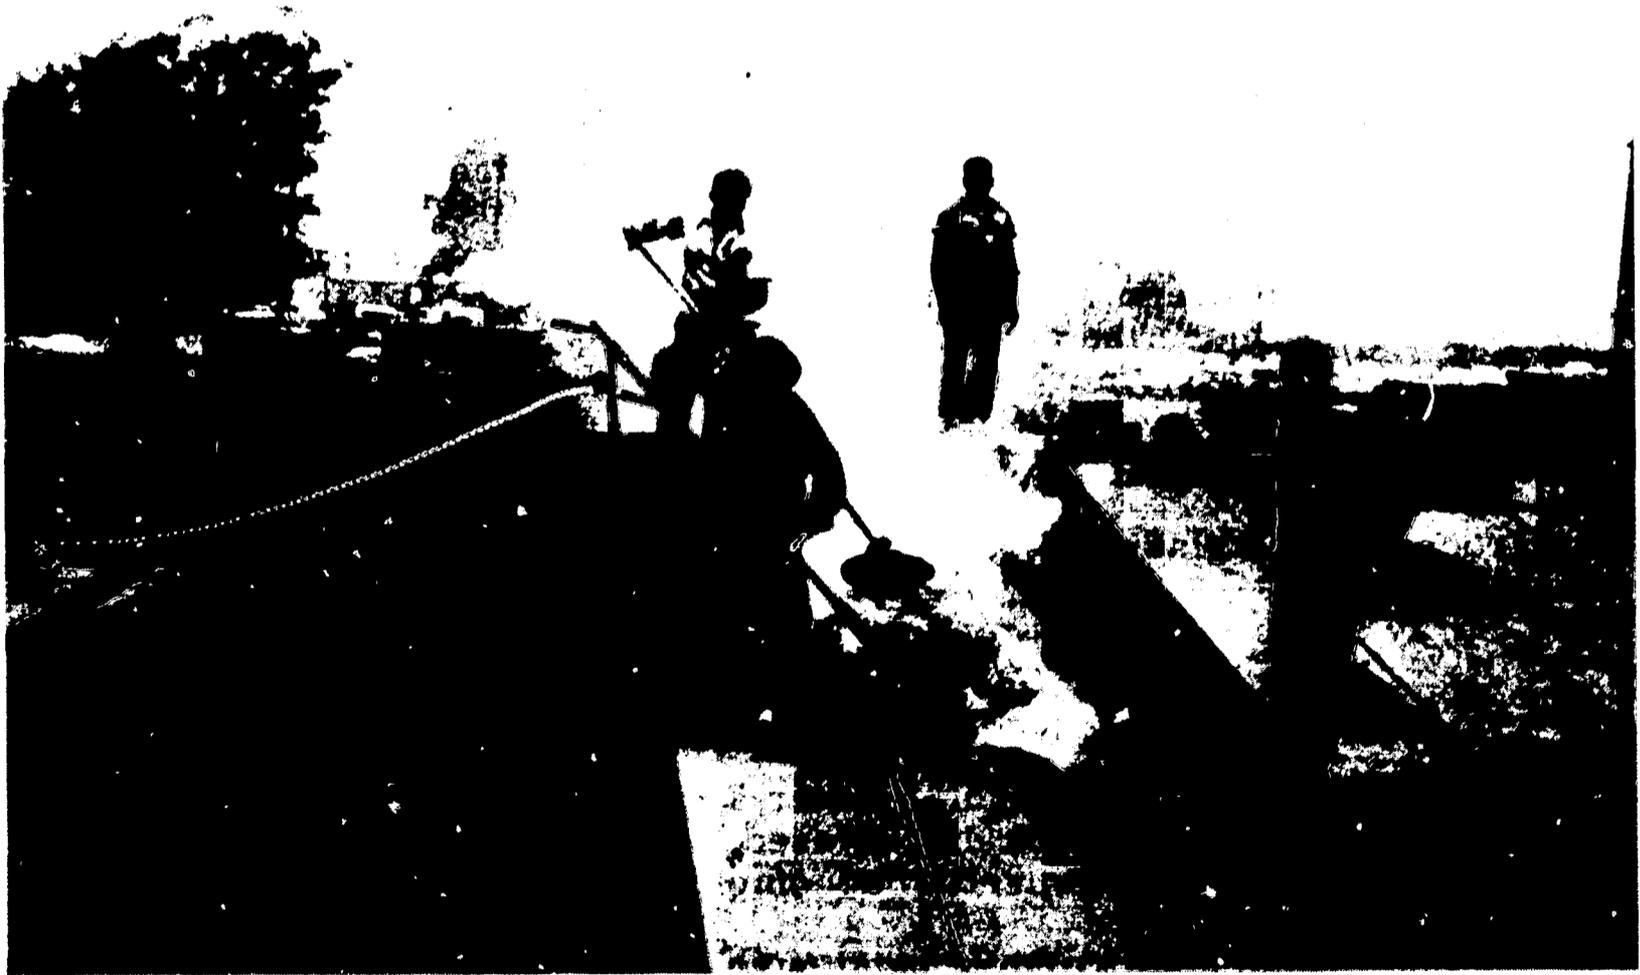

Fig. A-4. Capsheet is laid vertically when roof is steep
- If the pitch of the roof is steep, the capsheet may be laid vertically with the top edge nailed 6 to 8 inches on center about 3 inches down from the top edge (Fig. A-4).